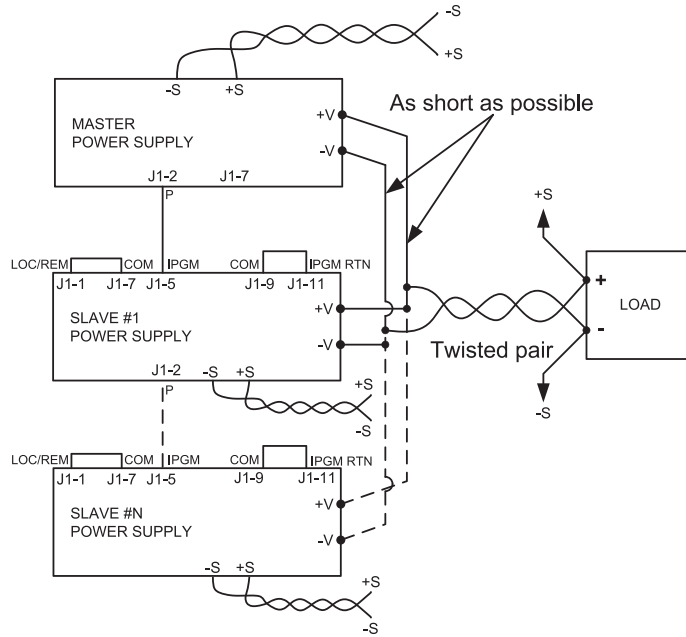

Fig.5-5: Parallel operation with remote sensing
During operation, the master unit operates in CV mode, regulating the load voltage at the programmed output voltage. Connect the sensing circuit to local or remote sensing as shown in Fig.5-4 or Fig.5-5. Front Panel Main Menu Parallel mode is "H1" as default.
During operation, the master unit operates in CV mode, regulating the load voltage at the programmed output voltage. Connect the sensing circuit to local or remote sensing as shown in Fig.5-4 or Fig.5-5.
6. For wiring instructions, refer to Fig.5-4: Parallel connection with local sensing or Fig.5-5: Parallel connection with remote sensing and Section 5.6: Daisy-Chain connection.